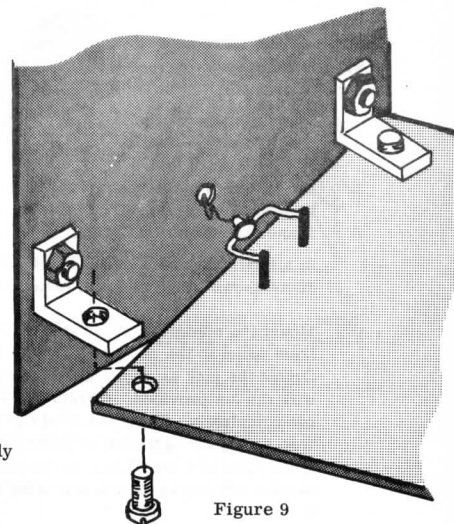

Figure 9
- () When mounting the circuit board to the front panel note that the dome front of the LED is designed to fit into the small hole in the front panel. To most easily accomplish this, "cock" the circuit board in relation to the front panel and pass one 4-40 screw through the circuit board into the threaded hole in the "L" bracket as shown in figure 9. DO NOT COMPLETELY TIGHTEN THIS SCREW.